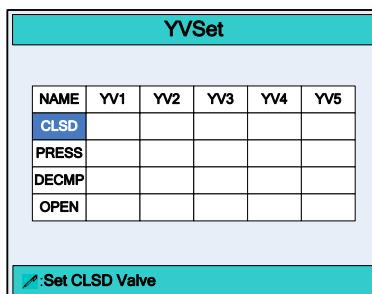

Figure 3-9 The YVSet page
On the **SYS PARA.** page, move the cursor to parameter **4.YV SETTING** (or press the number key 4), and press to enter the **YV MONITOR** page, as shown in Figure 3-9.
**[Operation Guide]:** Press and to select the YV need to be configured, and press number key to enter the value (the number key 1 to 5 respectively corresponding **YV1** to **YV5**), and then press to confirm.